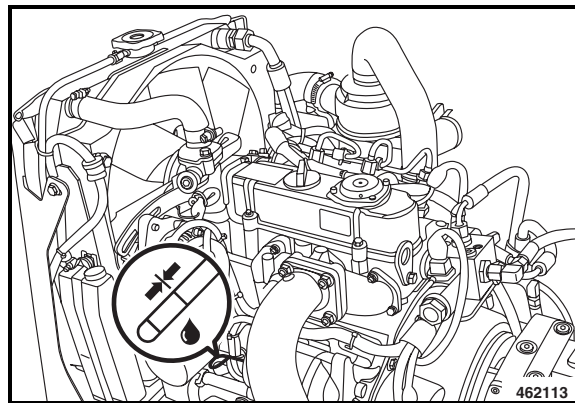

Fig. 135
- After a short test run check the oil level once again (Fig. 135), if necessary top up to the top mark (MAX).